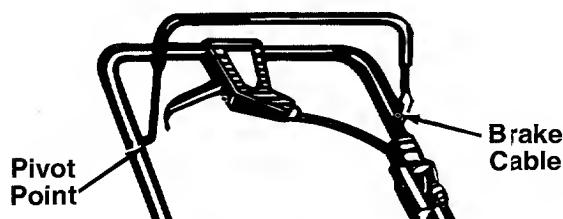

FIGURE 11.
**Blade Control**—Lubricate the pivot points on the blade control handle and the brake cable at least once a season with light oil. See figure 11. The blade control must operate freely in both directions.